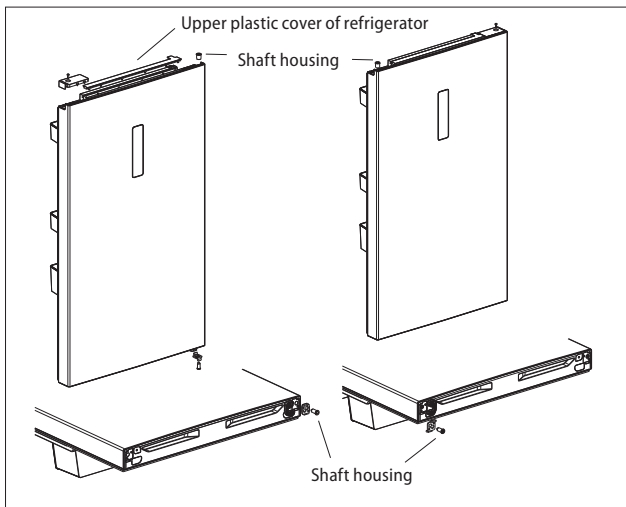

Fig. 4
7. Remove the upper plastic cover from the upper edge of the refrigerator door (Fig. 4).
8. Remove the housing for fixing the upper refrigerator hinge and place it on the other side of the door (Fig. 4). After moving the housing, place the upper plastic cover back.
9. Remove the plastic door stop, the metal holder, and the shaft housing for fixing the middle hinge of the refrigerator from the bottom edge of the refrigerator door (Fig. 4).